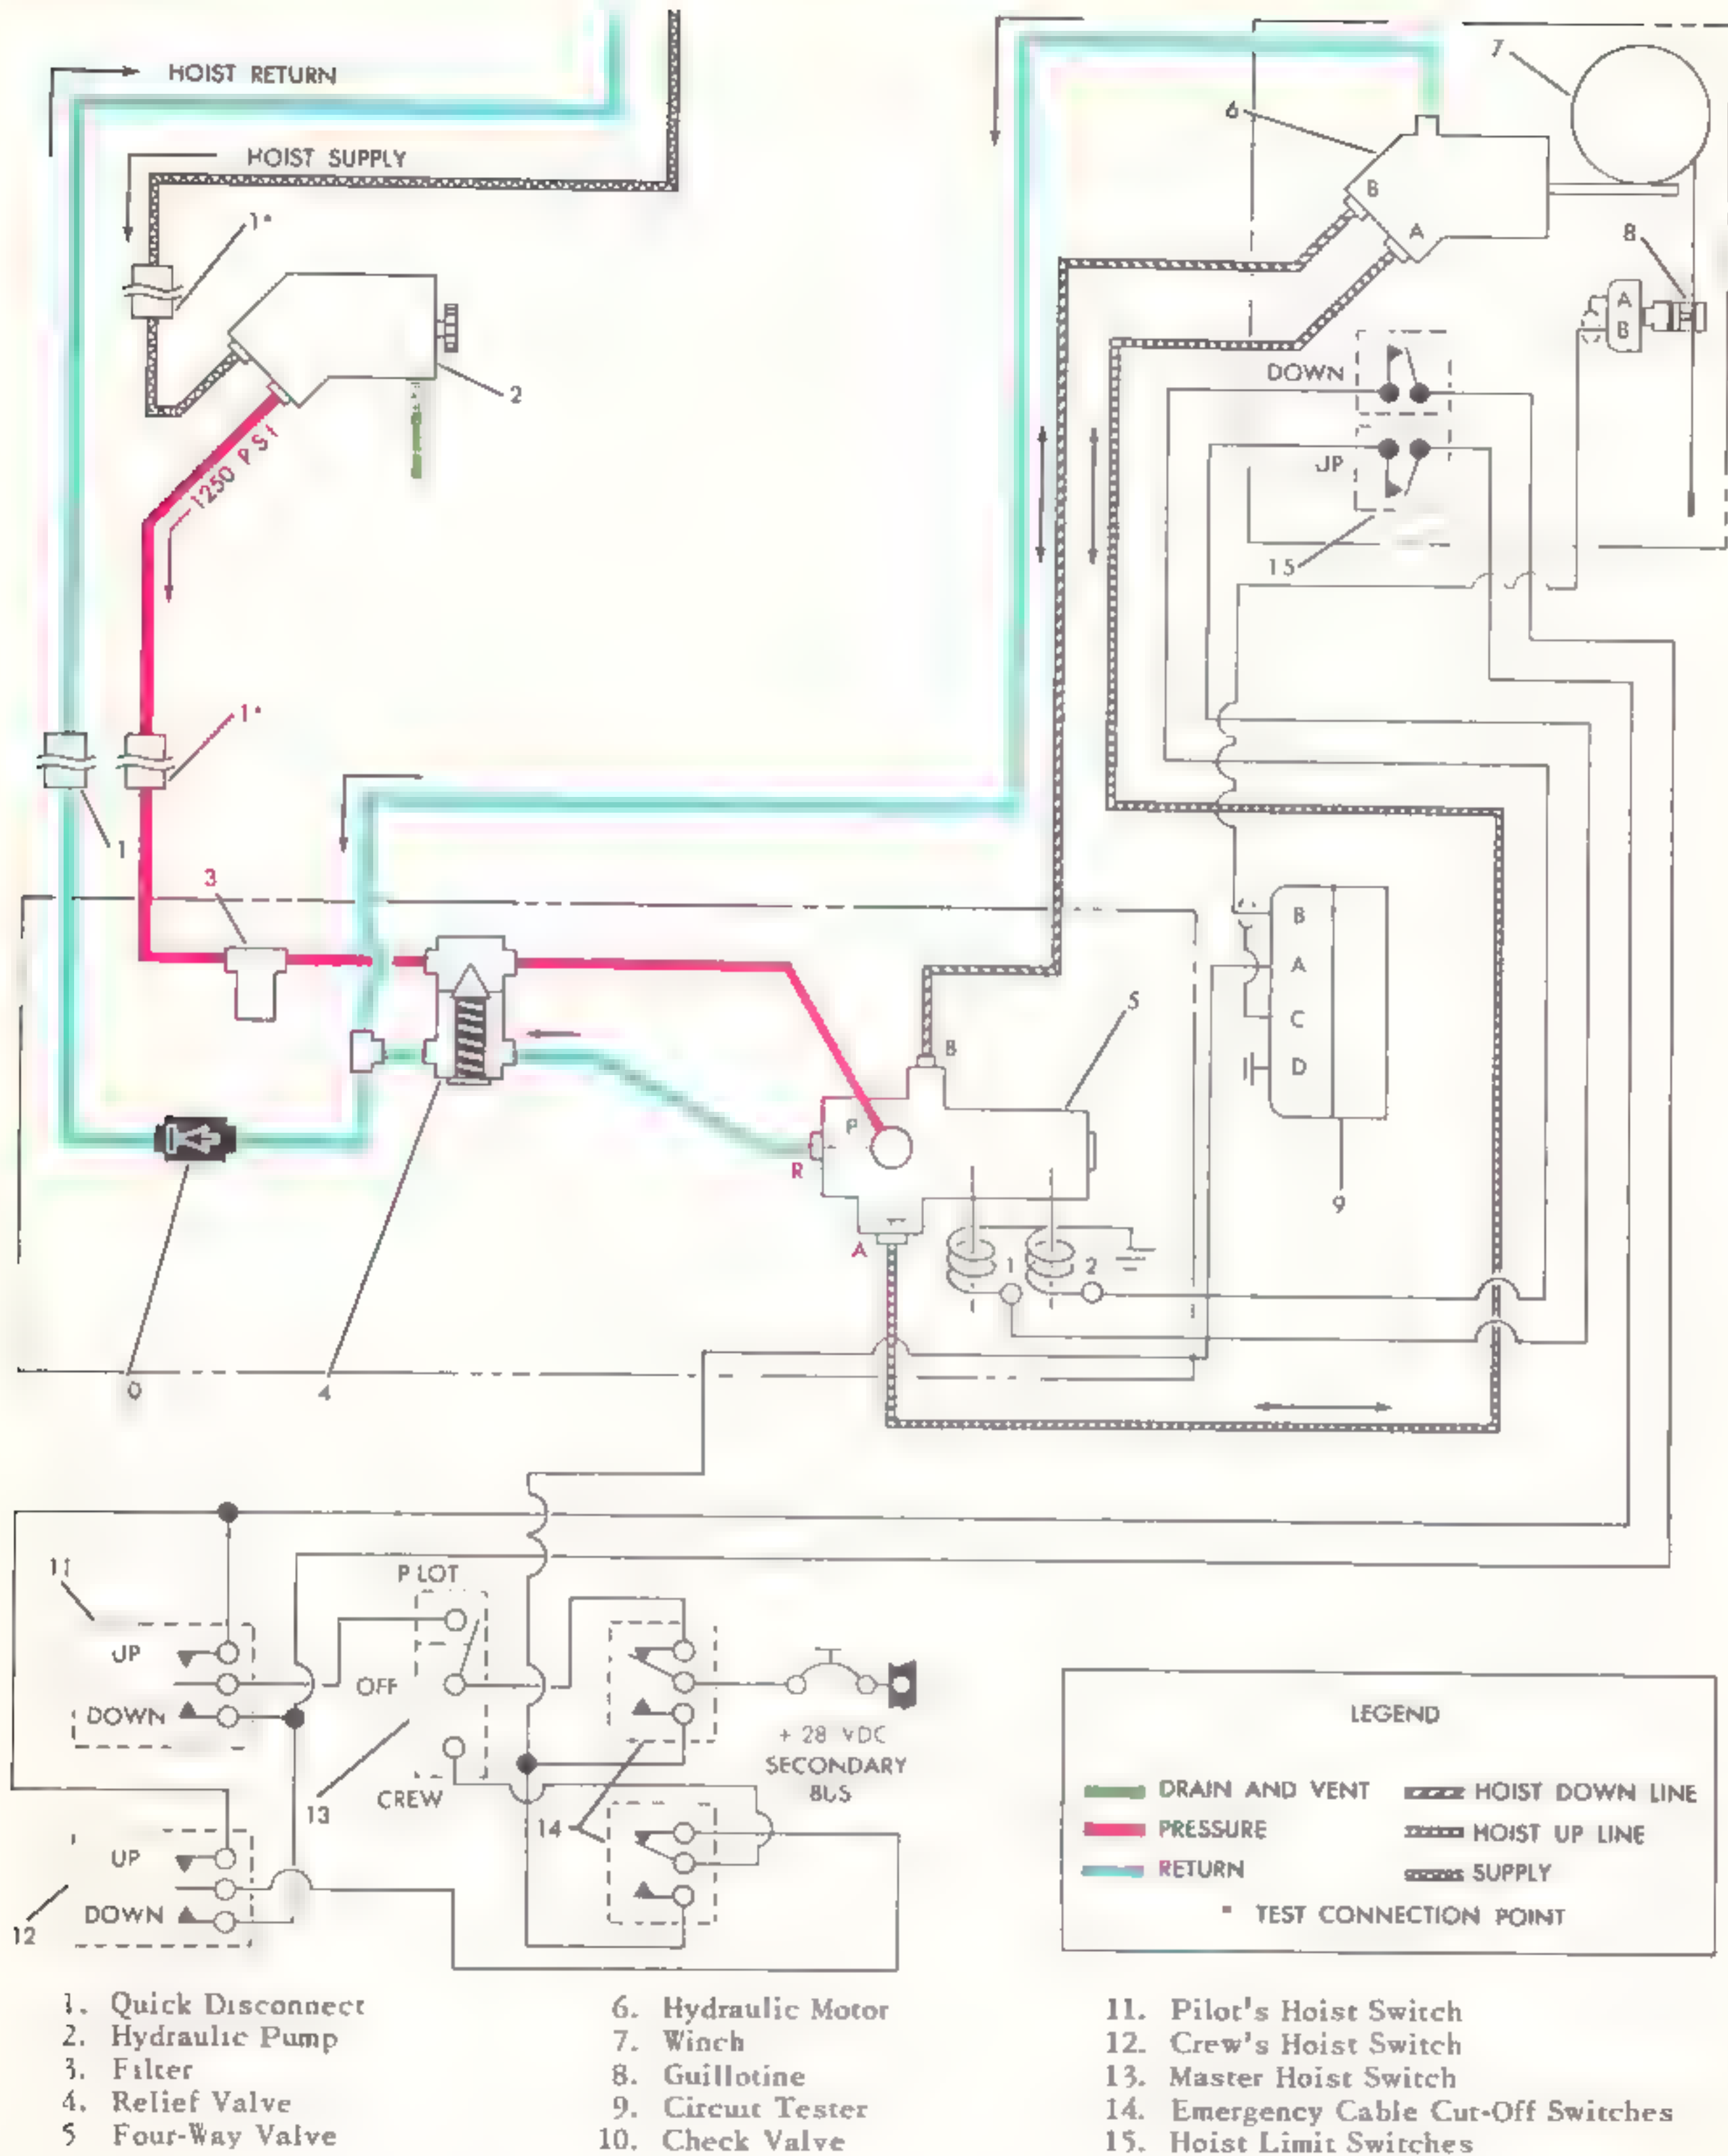

Figure 6-8. Rescue hoist hydraulic system schematic diagram
c. *Installation.* (1) Position fittings (elbows or nipples) in fuselage structure as noted at time of removal and secure with washers and nuts.
(2) Remove caps from ends of tube or hose assemblies and ports of hydraulic components. Blow tube or hose assemblies clear with dry, filtered compressed air.
(3) Place tube or hose assemblies in their respective positions and connect to other tube or hose assemblies or hydraulic components.
(4) Position clamps on tube or hose assemblies and secure with attaching hardware.
(5) Bleed auxiliary hydraulic system in accordance with paragraph 6-19 and service reservoir in accordance with table 1-5.
(6) Install access covers and plates and close service platforms.
6-31. *Rescue Hoist Hydraulic System.* The rescue hoist hydraulic system consists of a hydraulic pump (2, figure 6-8), filter (3), relief valve (4), four-way valve (5), check valve (10), and hydraulic lines, fitting, and clamps. All hydraulic components of the rescue hoist hydraulic system are mounted on a bracket on the main transmission deck, except the hydraulic pump. Hydraulic fluid for the rescue hoist hydraulic system is drawn from the reservoir of the primary hydraulic system.
6-32. *Hydraulic Pump.* The hydraulic pump (2, figure 6-8) is located on the left side of the lower housing of the main transmission, forward of the primary hydraulic system hydraulic pump, and is driven by an accessory drive of the main transmission. Hydraulic fluid is supplied to the hydraulic pump from the primary hydraulic system reservoir. The hydraulic pump is of the constant-displacement type and provides the system with a nonpulsating flow of fluid at 1250 psi. The displacement of the pump is 0.367 cubic inch-per-revolution. Access to the hydraulic pump is gained by hinging down the service platform on the left side of the helicopter.
a. Removal. (1) Disconnect reservoir supply line, pressure line, and overboard drain line from hydraulic pump (2, figure 6-8).
(2) Remove nuts and washers securing hydraulic pump (2) on studs in main transmission. Remove hydraulic pump and gasket.
(3) Remove fittings from ports of hydraulic pump.
b. Cleaning. Clean hydraulic pump with a clean cloth slightly moistened in solvent (item 4, table 1-8).
c. Inspection. (1) Inspect hydraulic pump for visible signs of leakage.
(2) Inspect threaded fittings and ports for stripped or malformed threads.
d. Installation. (1) Install fittings in hydraulic pump (2, figure 6-8).
6-33. *Filter.* The filter (3, figure 6-8) is located on the bracket of the hydraulic panel for the rescue hoist hydraulic system mounted on the left side of the main transmission deck. The filter has a rated capacity of 6 gpm and removes impurities from the hydraulic fluid before it can enter the hydraulic components.
a. Removal. (1) Disconnect pressure line from each side of filter (3, figure 6-8).
(2) Remove bolts, washers, and nuts securing filter (3) to bracket of hydraulic panel and remove filter.
(3) Remove elbow and nipple from filter.
(4) Remove filter bowl from filter body and remove filter element from filter bowl.
b. Cleaning. Clean filter with solvent (item 4, table 1-8) and dry with filtered compressed air.
d. Installation. (1) Place filter element in filter bowl and install filter bowl on filter body.
(2) Install elbow and nipple in filter.
(3) Position filter on bracket of hydraulic panel and secure with bolts, washers, and nuts.
(4) Connect pressure line to each side of filter.
6-34. *Relief Valve.* The relief valve (4, figure 6-8) is located at the aft end of the hydraulic panel. The check valve (10) is installed in the tee installed in the relief valve. The relief valve will open and bypass hydraulic fluid to the reservoir when the pressure in the rescue hoist hydraulic system reaches 1250 psi and has a rated flow of 6 gpm.
(2) Position relief valve (20) on bracket (16) with spacers and secure with bolts and washers.
(3) Connect tube assemblies (13 and 17) to right side of relief valve (20) and connect tube assembly routed from filter (4) to left side of relief valve.
(4) Connect tube assembly (1) to tee in relief valve and hose assembly (3) to check valve (2).
6-35. *Four-Way Valve.* The four-way valve (5, figure 6-8) is located on the forward end of the bracket of the hydraulic panel for the rescue hoist hydraulic system. The purpose of the four-way valve is to control the direction of rotation of the hydraulic motor (6) of winch (7). The operation of the four-way valve is governed by two solenoids, mounted on the four-way valve,